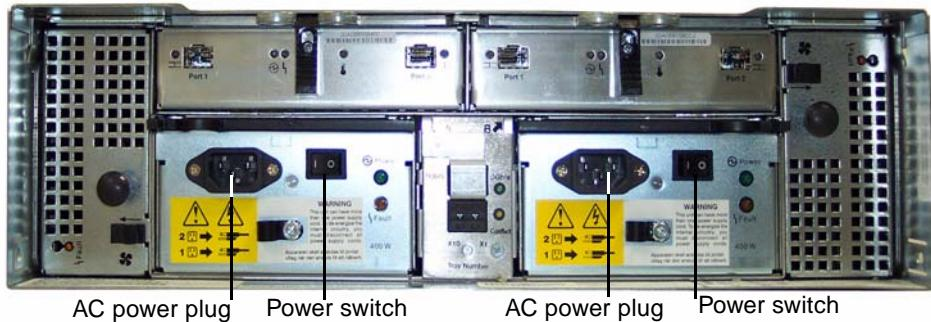

FIGURE 3-21 Expansion Enclosure Back Panel
2. Make sure that the power switches are in the Off position, and then connect both AC power cables to the back of each expansion enclosure (see FIGURE 3-21).